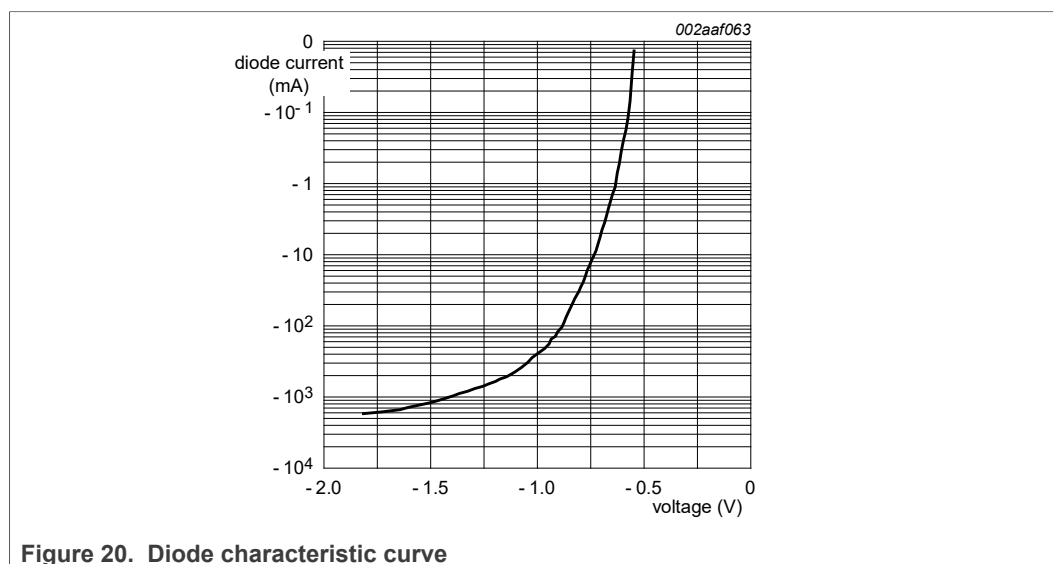

Figure 20. Diode characteristic curve
Figure 20 shows the measured characteristic for one of those diodes inside P82B96. The plot was made using a curve tracer that applies 50 Hz mains voltage via a series resistor, so the pulse durations are long duration (several milliseconds) and are reaching peaks of over 2 A when more than -1.5 V is applied. The IC becomes very hot during this testing but it was not damaged. Whenever there is current flowing in any of these diodes it is possible that there can be faulty operation of any IC. For that reason we put a specification on the negative voltage that is allowed to be applied. It is selected so that, at the highest allowed junction temperature, there will be a big safety factor that guarantees the diode will not conduct and then we do not need to make any 100 % production tests to guarantee the published specification.
For the P82B96, in specific applications, there will always be transient overshoot and ringing on the wiring that can cause these diodes to conduct. Therefore we designed the IC to withstand those transients and as a part of the qualification procedure we made tests, using DC currents to more than twice the normal bus sink currents, to be sure that the IC was not affected by those currents. For example, the Tx/Ty and Rx/Ry pins were tested to at least -80 mA which, from Figure 20, would be more than -0.8 V. The correct functioning of the P82B96 is not affected even by those large currents. The Absolute Maximum (DC) ratings are not intended to apply to transients but to steady state conditions. This explains why you will never see any problems in practice even if, during transients, more than -0.3 V is applied to the bus interface pins of P82B96.
Figure 20 also explains how the general Absolute Maximum DC specification was selected. The current at 25 °C is near zero at -0.55 V. The P82B96 is allowed to operate with +125 °C junction and that would cause this diode voltage to decrease by $100 \times 2 \text{ mV} = 200 \text{ mV}$. So for zero current we need to specify -0.35 V and we publish -0.3 V just to have some extra margin.